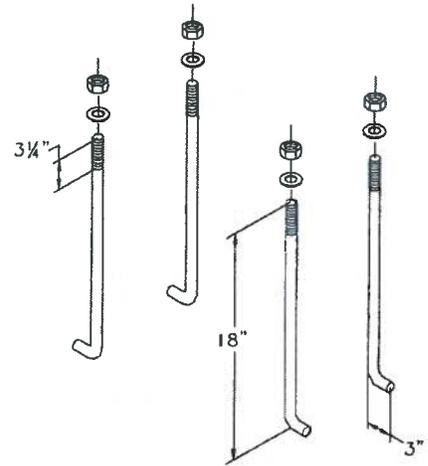

Figure 1
1. The anchor bolts and hardware shall be fabricated with the dimensions and design characteristics as shown in Figure 1.